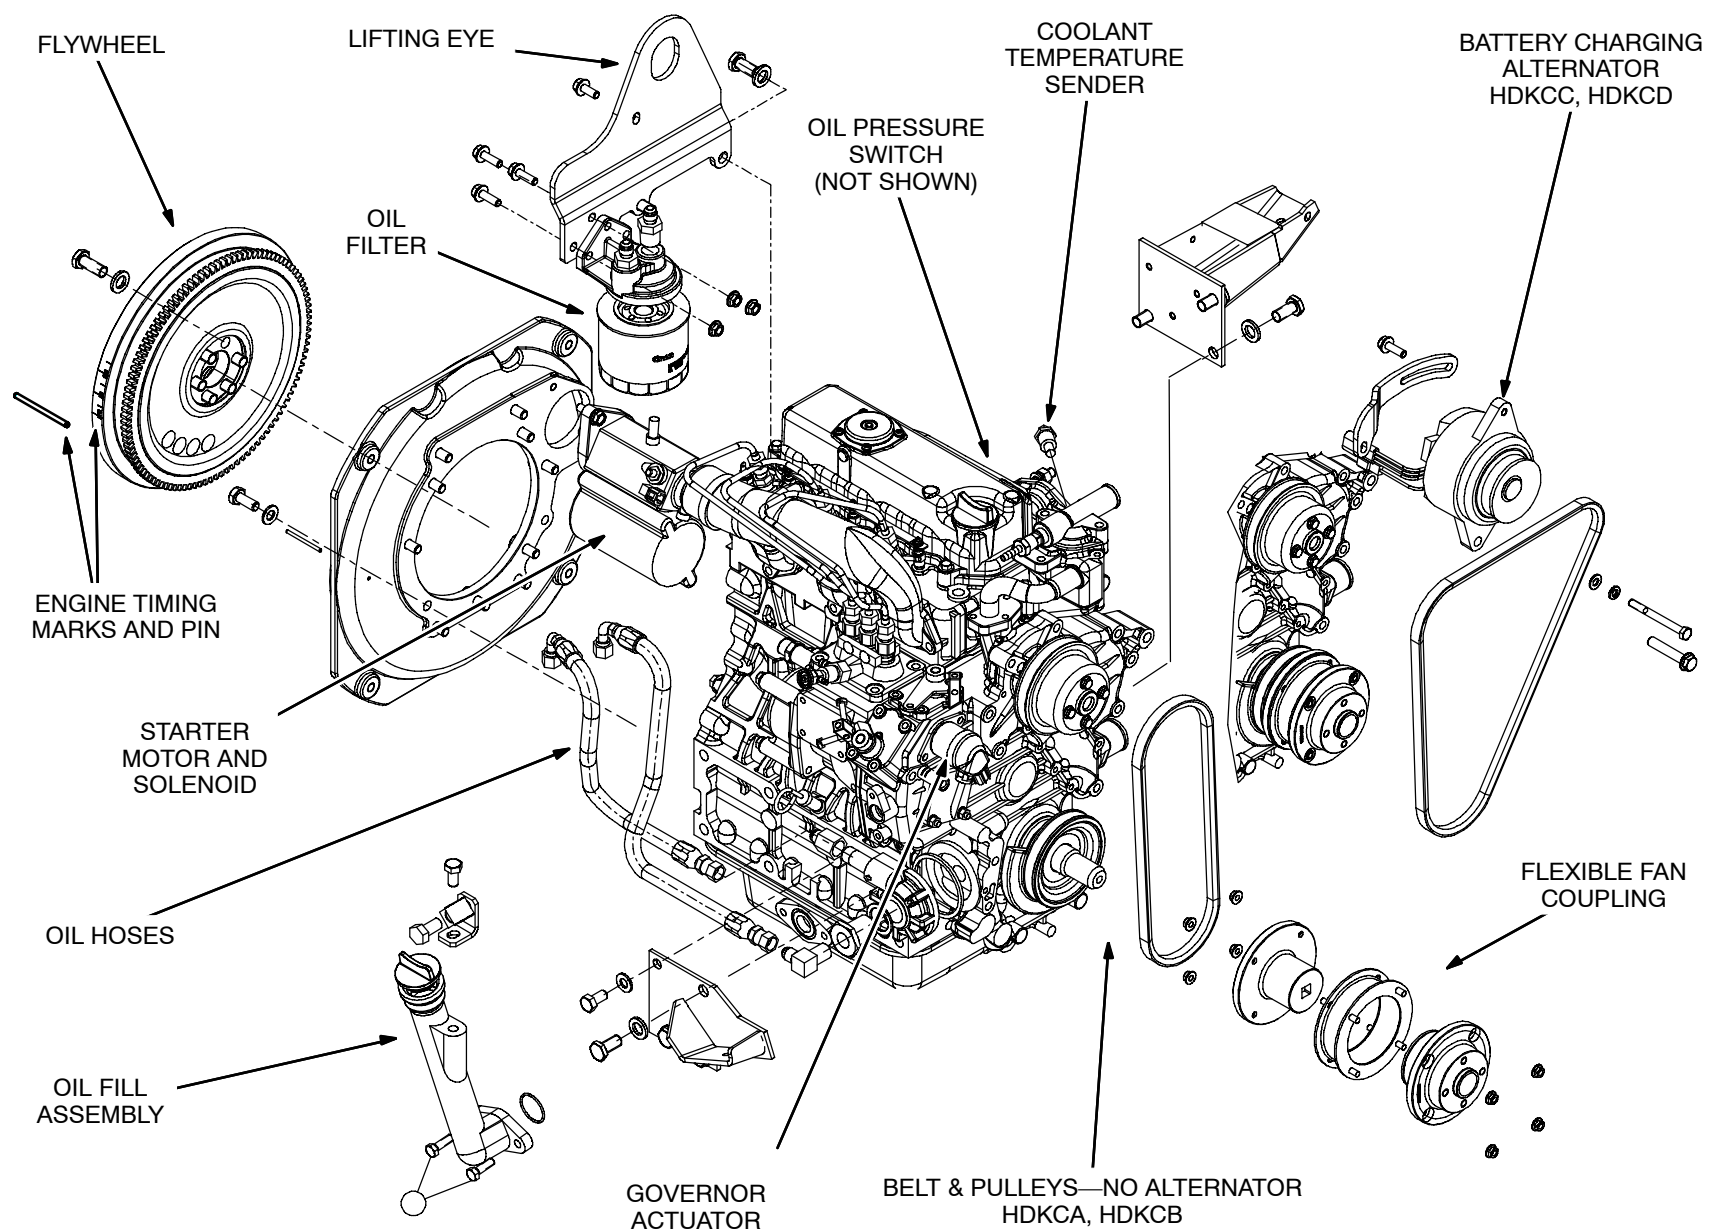
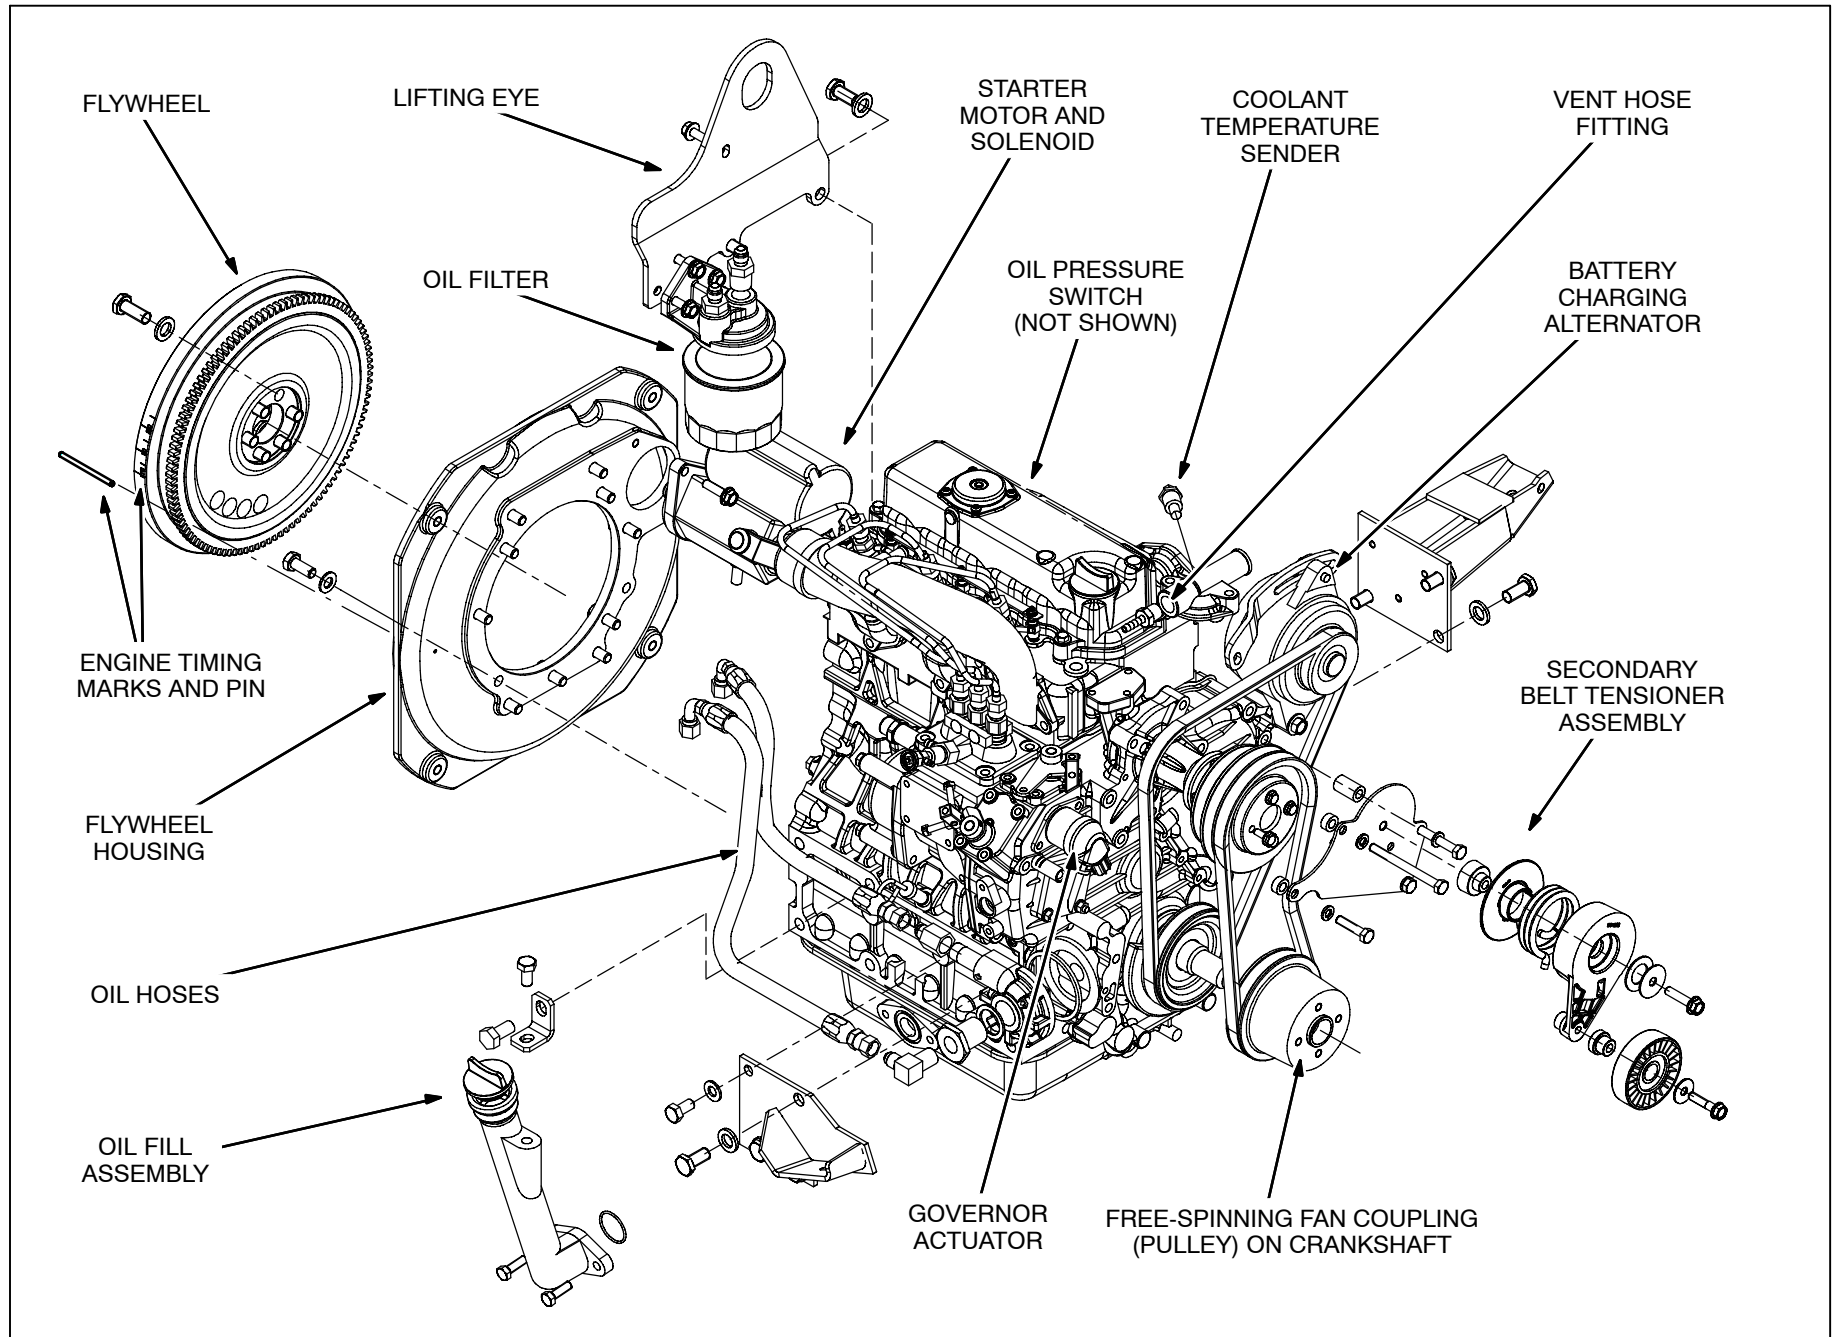
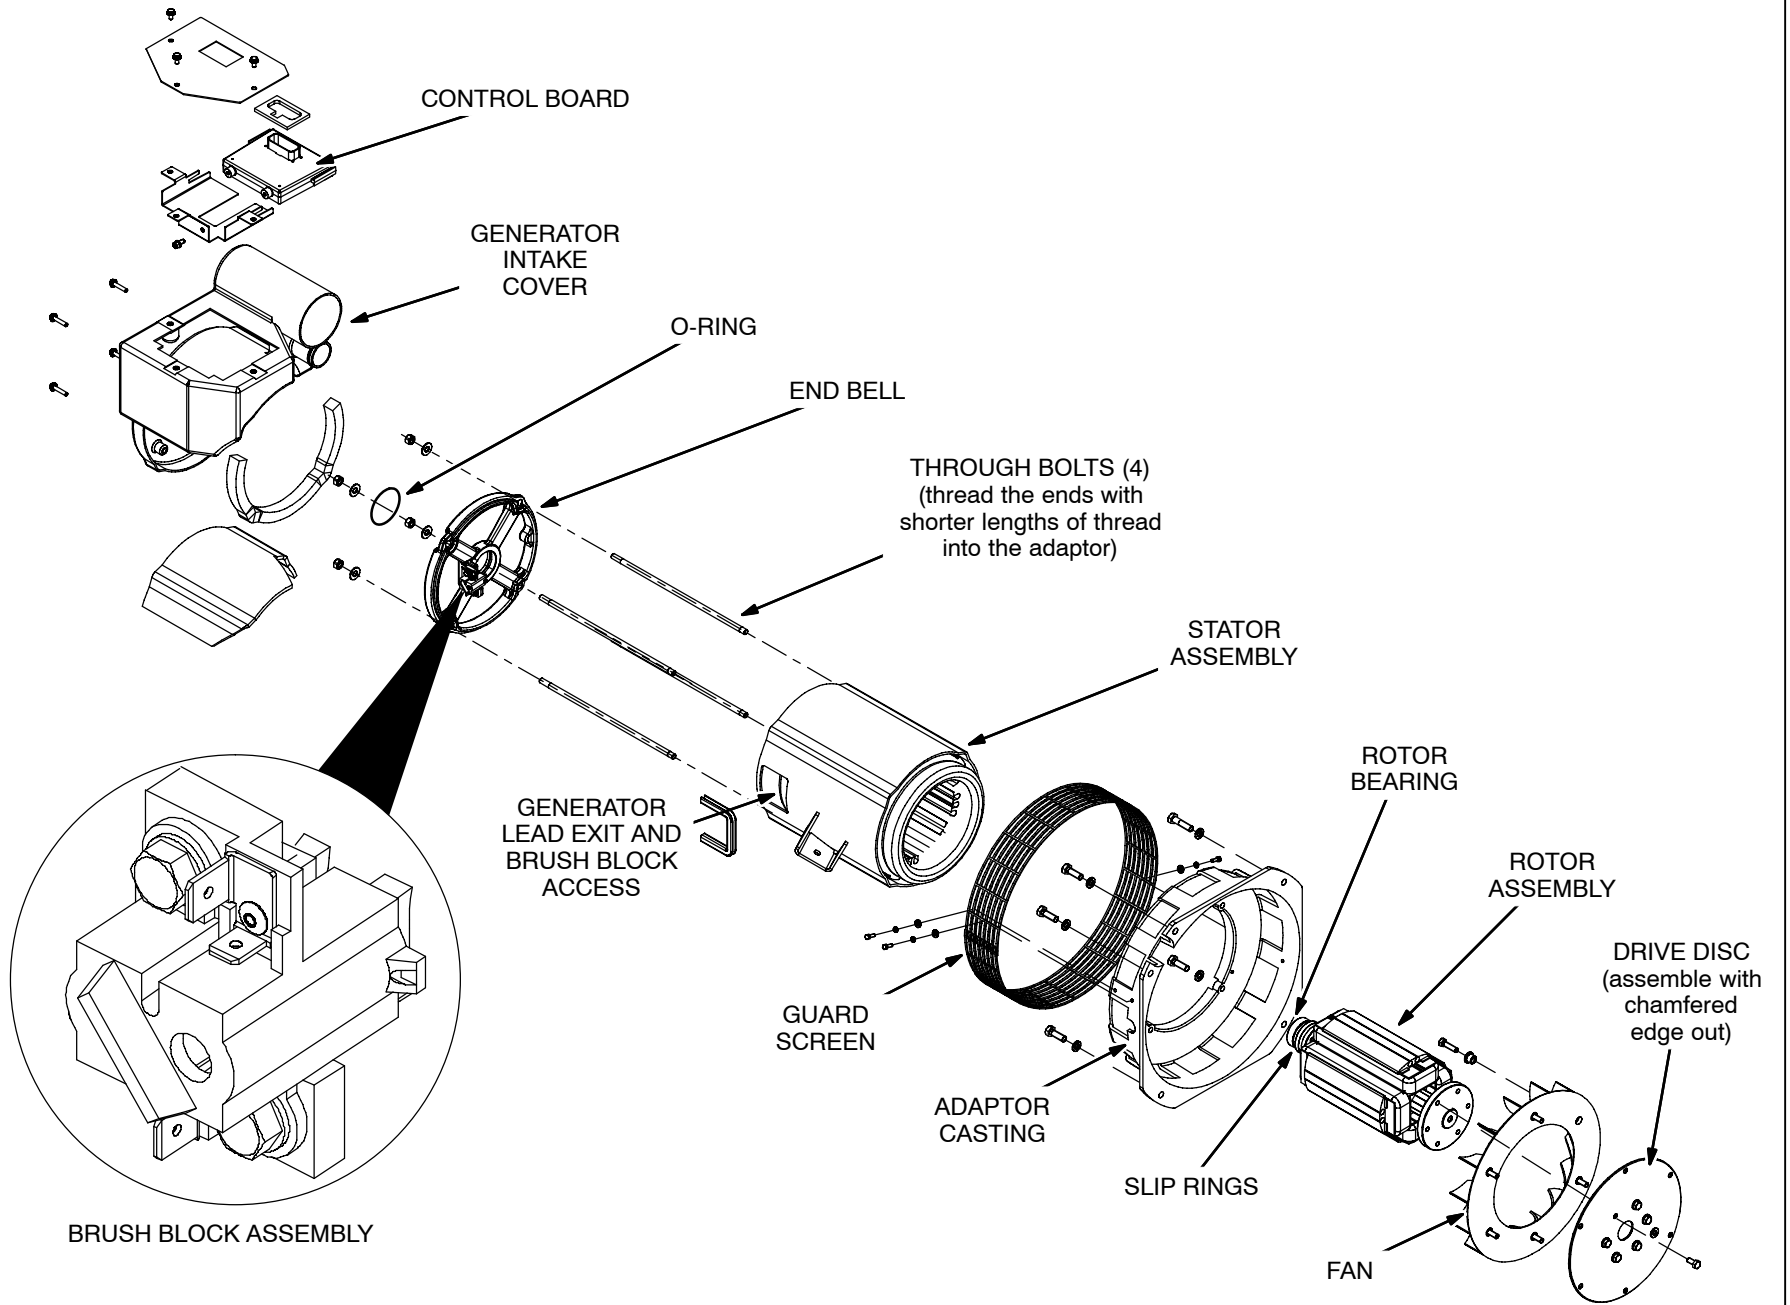

FIGURE 9-1. ENGINE AND ACCESSORIES—BEGINNING SPEC B
FIGURE 9-2. ENGINE AND ACCESSORIES—SPEC A ONLY
FIGURE 10-1. GENERATOR
Beginning Spec B, the centrifugal blower (fan) is driven by a flexible coupling on the end of the crankshaft (Figure 9-1). Prior to Spec B the fan is driven by a two-belt, two-stage drive system (Figure 9-2).
**Beginning Spec B**, if it is necessary to replace the flexible member of the fan coupling (Figure 9-1), torque the eight (8) flange nuts according to specifications (p. 13-1).
Remove the top genset housing panel (p. 4-4). Adjust tension so that deflection is 8-10 mm (0.3-0.4 inch) midway between the alternator and pump pulleys when a force of 10 kg (22 pounds) is applied. See (Figure 9-1).
There is no means to adjust belt tension. To install a new belt, run the belt over both pulleys and pull the pump pulley up to its hub and push it on. Secure the pulley with the 4 bolts and tighten the bolts according to specifications (p. 13-1). It is critical that the correct replacement belt be used. (Belt tension increases slightly as the engine runs and is sufficient for the relatively light pump load.) See (Figure 9-1).
The secondary belt has a spring tensioner (Figure 9-1).
The engine-generator-muffler assembly and wiring harnesses can be removed as an assembly from the genset if it is necessary to remove either the engine (Figure 9-1) or the generator (Figure 10-1). To do so:
The engine is equipped with a coolant temperature sender and low oil pressure cutout switch (Figure 9-1). The associated fault codes (Section 12. Troubleshooting) are as follows:
1. Remove the air inlet assembly (Figure 10-1).